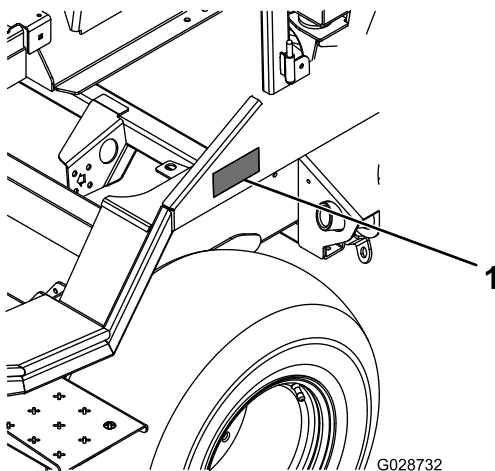

**Figure 37**
2. Apply 2 strips of red reflective tape to each end of the bumper as shown in Figure 37.